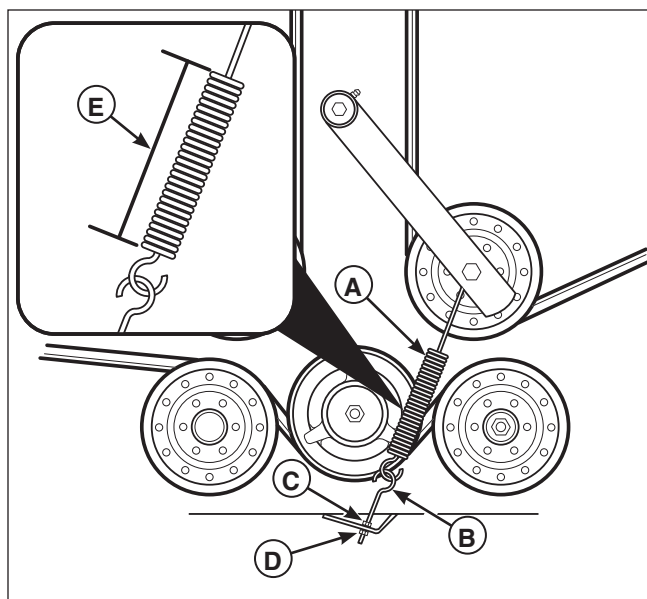

Figure 39. Mower Belt Idler Spring Length
4. Measure the coil length of the mower belt tensioner spring (A, Figure 39). The measurement should equal the measurement as designated in the chart. If the measurement does not equal the measurement as designated in the chart, adjust the mower belt idler spring length (E).
1. Loosen the jam nut (C, Figure 39) on the anchor eyebolt (B).
2. Turn the adjustment nut (D) until the measurement as designated in the chart is achieved.